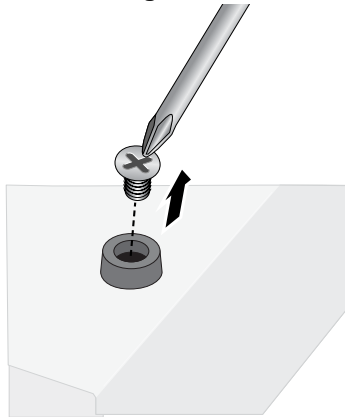

Figure 9 Removing the Protective Feet (AT-FS7024)
- ❑ For the AT-FS7024 switch, remove the protective feet from the bottom of the unit, as shown in Figure 9.